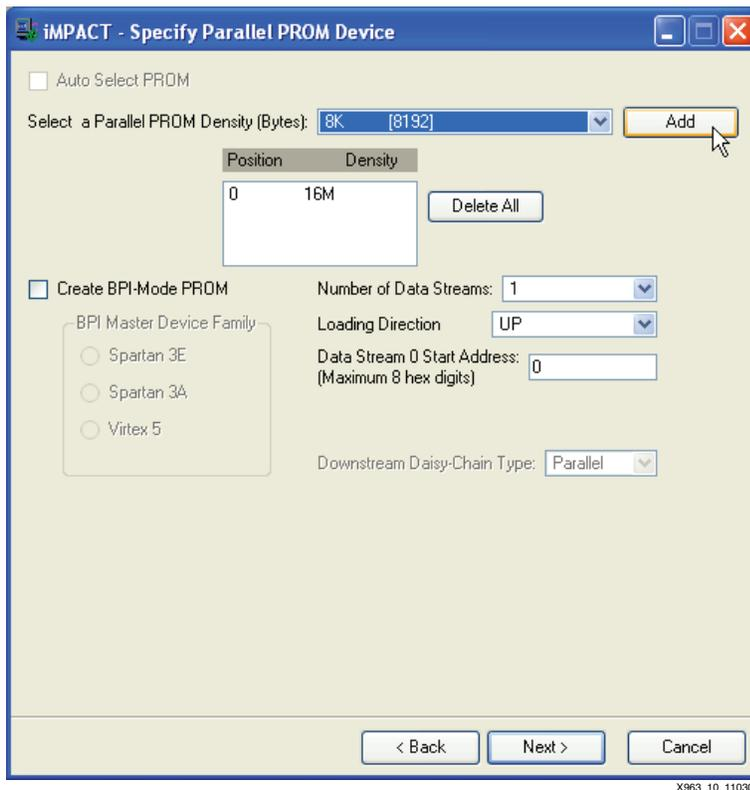

Figure 10: Specify Parallel PROM Device Dialog Box
- In the Specify Parallel PROM Device dialog box, shown in Figure 10, select a parallel PROM density of 16M and click Add. Ensure the Number of Data Streams is set to 1, the Loading Direction is set to UP, and the Data Stream 0 Start Address is set to 0. Click Next.